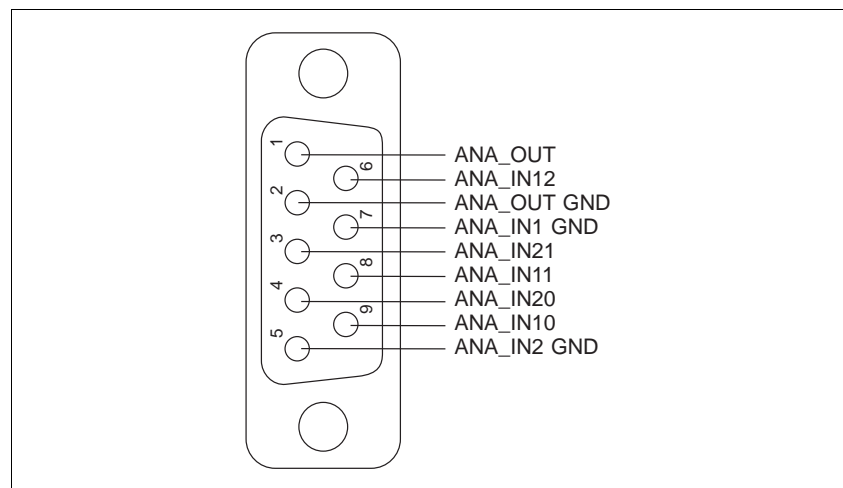

Fig. 2-20 Interface connector - device end
1. Solder the litz wires to the connector as illustrated in fig. 2-20.